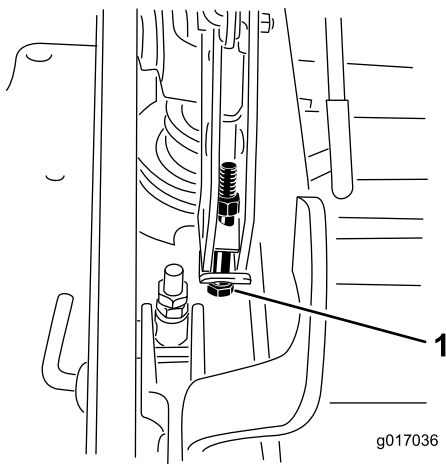

Figure 89
13. If the deck is too low, tighten the single point adjustment bolt by rotating it clockwise. If the deck is too high, loosen the single point adjustment bolt by rotating it counterclockwise (Figure 89).